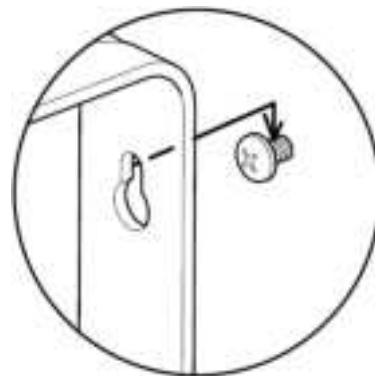

Fig. 3b
- Hang the hose reel on the screws, then completely tighten the screws. (see Fig. 3b)
- Connect the inlet hose (4) to the air supply.